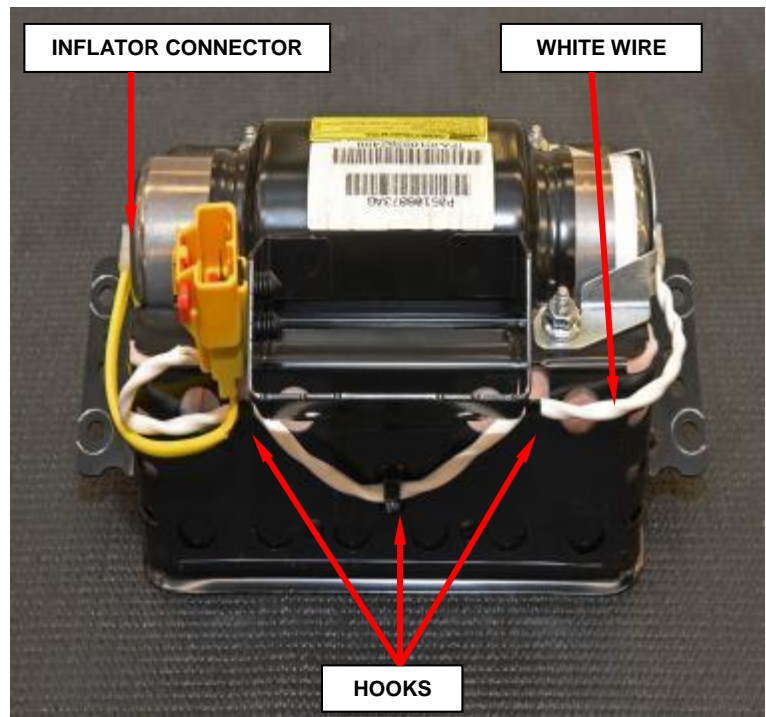

Figure 67 – Retrofit Complete
- t. Connect the single yellow wire inflator connector to the end of the inflator after removing the protective tape from the end of the inflator (Figure 67).
- u. Passenger airbag retrofit is complete (Figure 67).